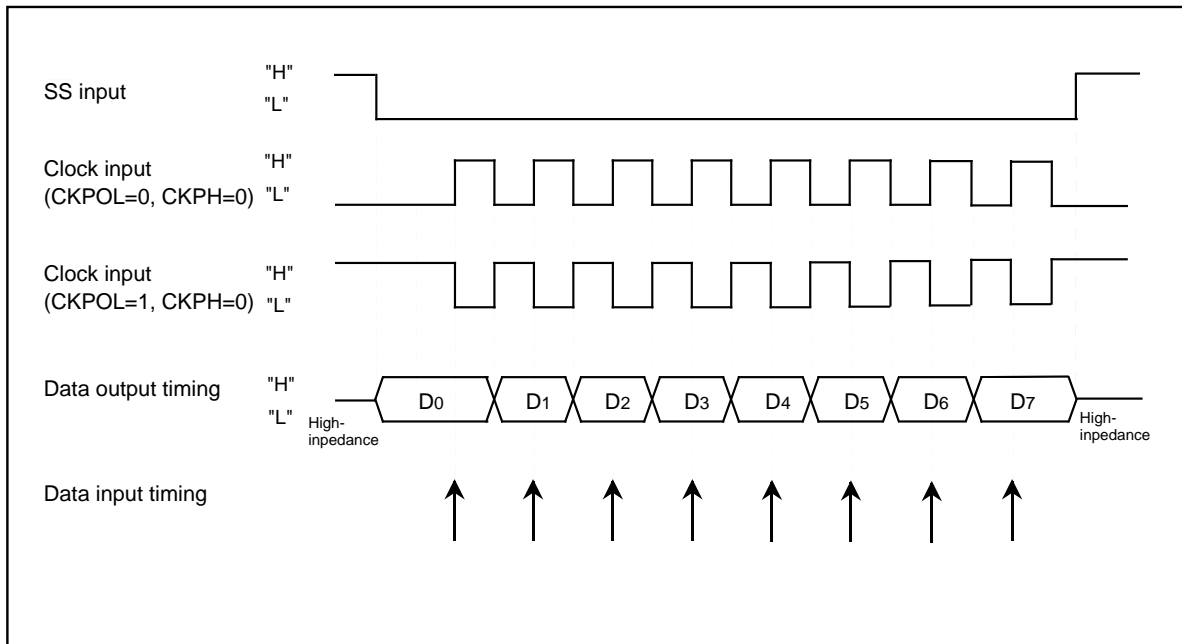

Figure 20.9 The transmission and reception timing (CKPH=1) in slave mode (external clock)
- With "1" for bit 1 (CKPH) of UARTi special mode register 3 (addresses 0325₁₆ and 02F5₁₆ [i = 3 or 4]), when an SSi input pin is H level, output data is high impedance. When an SSi input pin is L level, the first data is output. After that, serial transmission is synchronized with the clock. Figure 20.9 shows the timing.